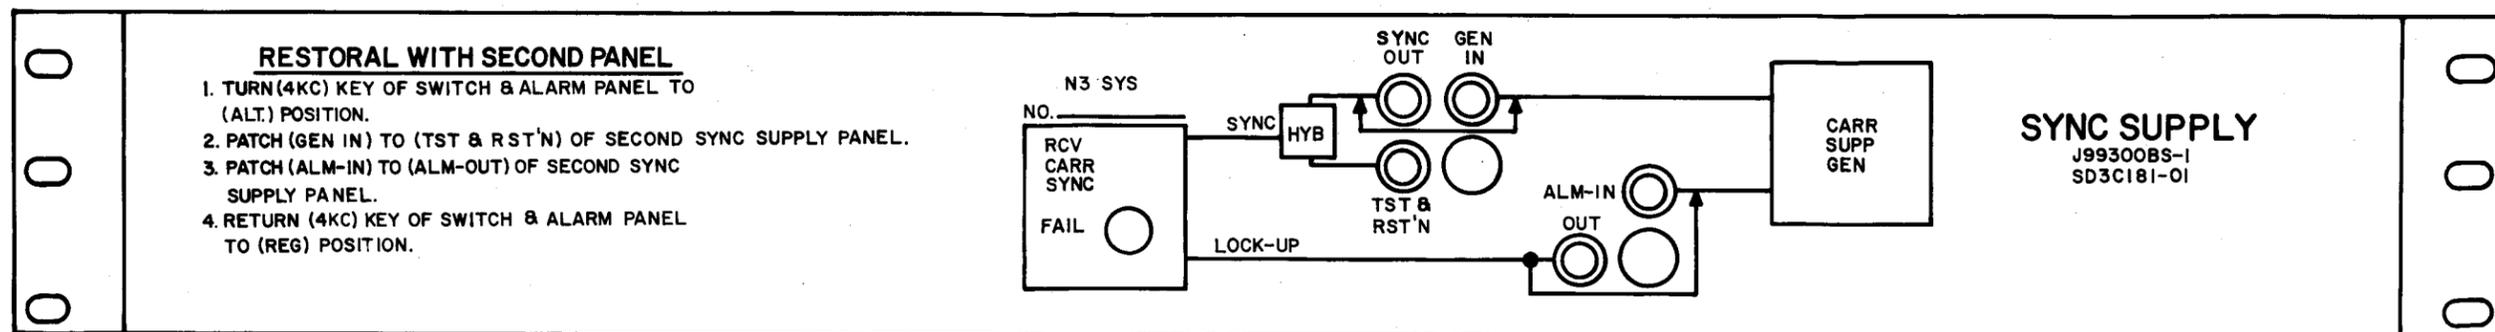

Fig. 1—J99300BS 64-kHz Sync Supply Panel
1.04 The J99300BS sync supply panel (Fig. 1) provides a reference 64-kHz signal input to the J99300BA 4-kHz generator unit in the primary carrier-frequency supply. A block diagram is shown in Fig. 2. Two phase-locked transmitted carriers, 152 kHz and 184 kHz from the distant terminal, are received at the associated N3 carrier terminal and applied to the 64-kHz sync supply panel. A modulator derives the difference frequency of 32 kHz which in turn is doubled and filtered to